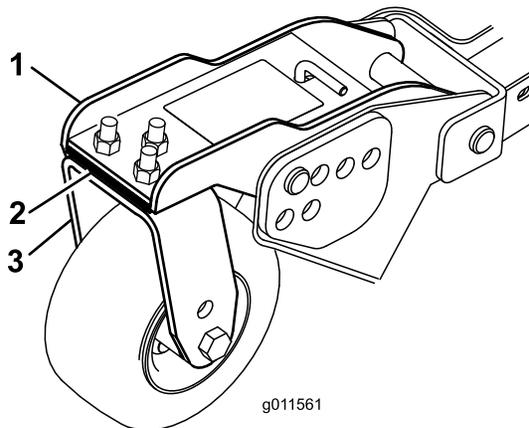

Figure 29
3. Adjust the shims (3 mm or 1/8 inch) on front caster arm(s) to match the height-of-cut decal (Figure 29).